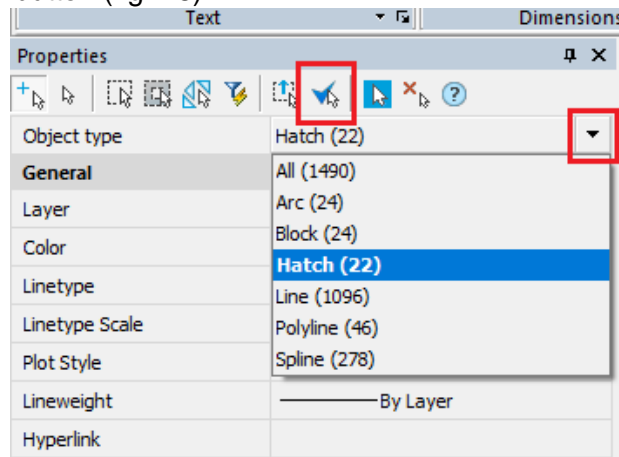

Fig. 28. Select only hatch
- In the Properties bar, in the Object type field choose Hatch (fig. 28), then click the Leave in selection button (fig. 28):